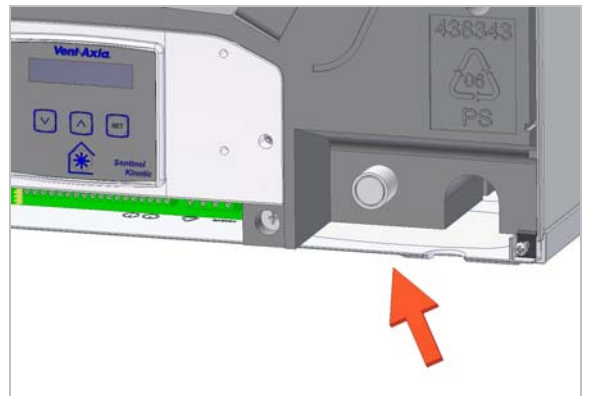

Figure 14: Condensate Stub Disk (Front of Unit)
1. For horizontal discharge, remove the front cover and locate the condensate stub at front of unit (see Figure 14).